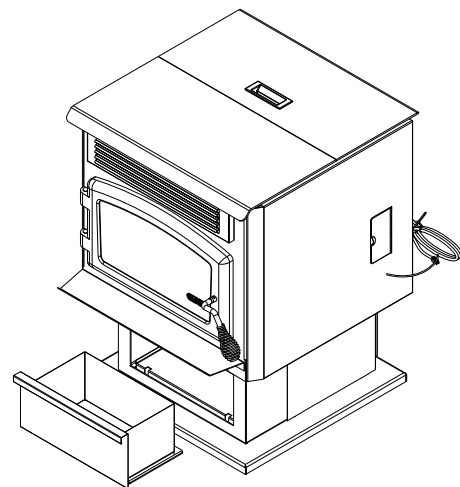

FIGURE 20
- Periodically remove and empty the ash bin (see Figure 20) by opening the front lid of the pedestal below the ash lip. Dispose of ashes properly. (See "ASH REMOVAL" above)